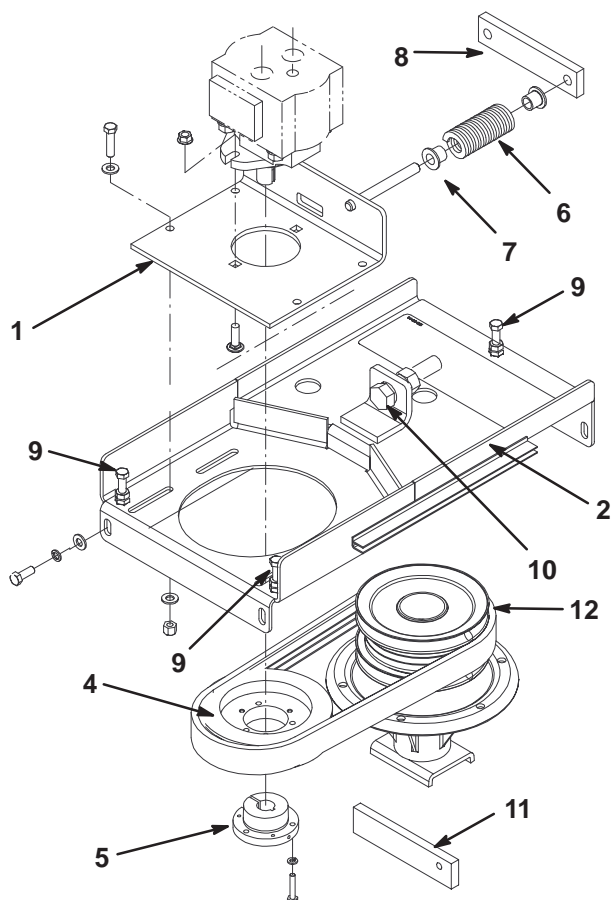

Figure 65
2. Loosen jam nut and relieve tension on springs with tensioner bolt (Fig. 65).
3. Loosen (4) capscrews securing slide plate to motor mount (Fig. 65).
4. Remove (4) capscrews securing motor mount to deck (Fig. 65).
6. Position motor mount onto deck while routing belt around drive pulley (Fig. 65). Be careful not to bend, twist, kink or damage flexible hydraulic lines.
7. Tighten (4) capscrews securing motor mount to deck.
8. Check the drive pulley (Fig. 65) height as follows:
- Slide the height gauge (Fig. 65) under drive pulley (not under hub).
- Equally tighten or loosen (3) adjusting screws (Fig. 65) until bottom of pulley rests on height gauge (approximately 1-1/2").
4. Loosen (4) capscrews securing slide plate to motor mount (Fig. 65).
5. Remove (4) capscrews securing motor mount to deck (Fig. 65).